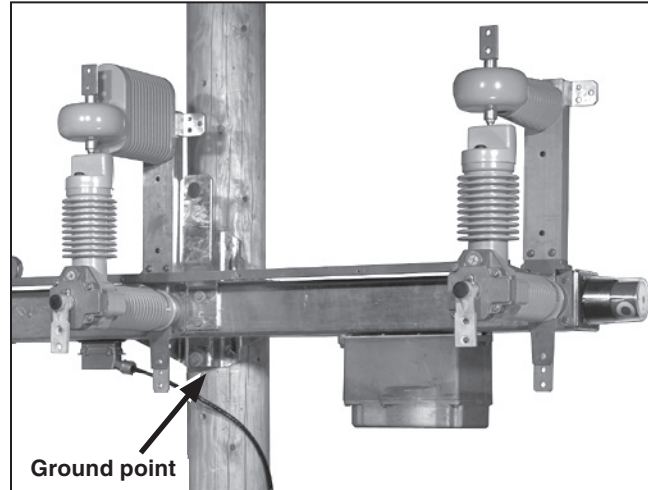

Figure 11. Grounding the switch (vertical mounting configuration shown).
STEP 8. Ground the switch by solidly connecting the end of number 2 AWG copper wire (or two number 6 AWG copper wires or copper wires of equivalent cross-sectional area) to the switch mounting bracket. See Figure 11. Grounding lug is to be provided by others. Connect the other ends of the wires to a suitable earth ground at the base of the pole and bond them to the system neutral, if present. Proper precautions must be taken to ensure the local earth ground cannot be severed or removed.